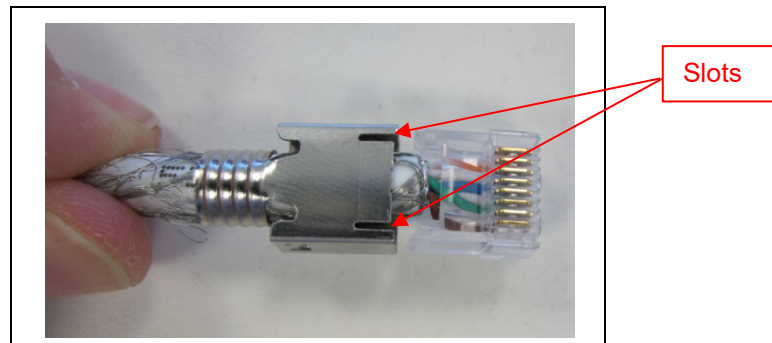

Figure 9. Orient Shield
1. Shield orientation: Place the shield so the slots are in the same side as the contacts. See Figure 9.